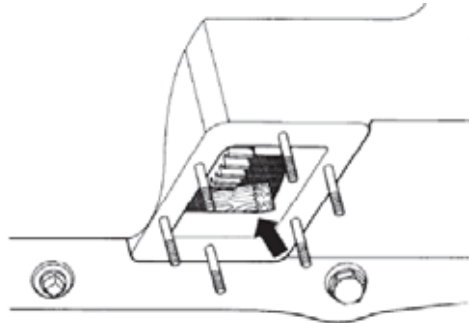

Figure 5 Wedge Location
- a. Insert a wooden wedge between the transmission PTO drive gear and the transmission housing (Figure 5).